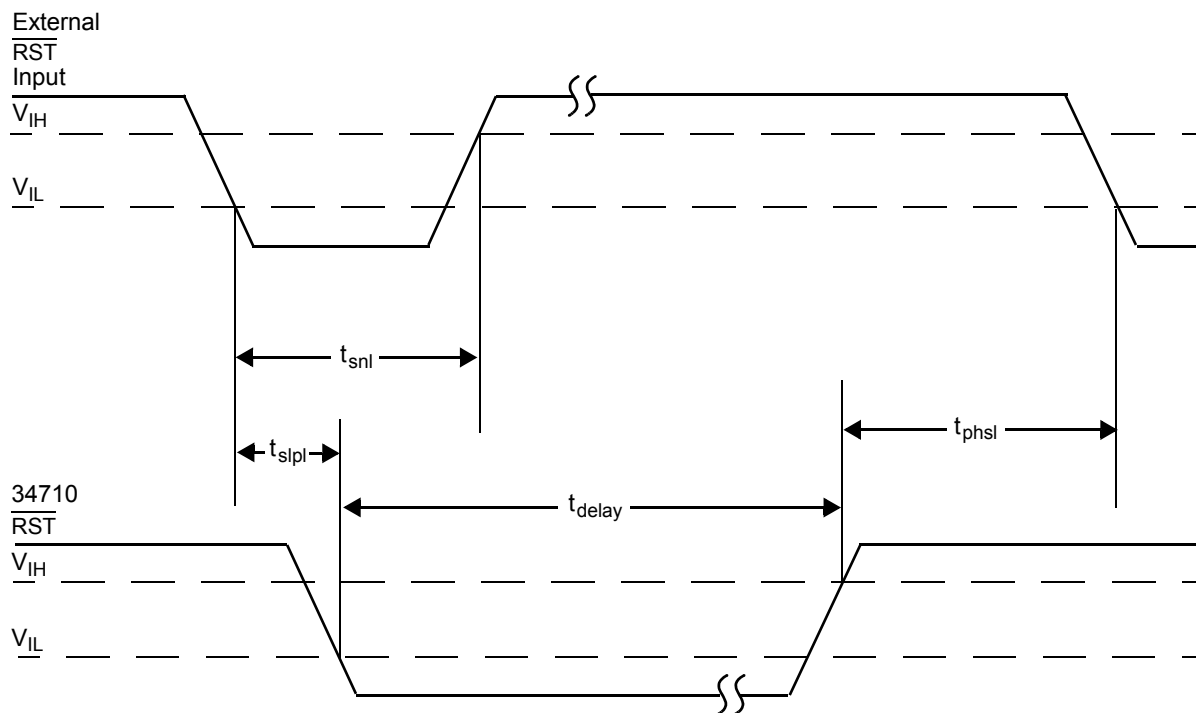
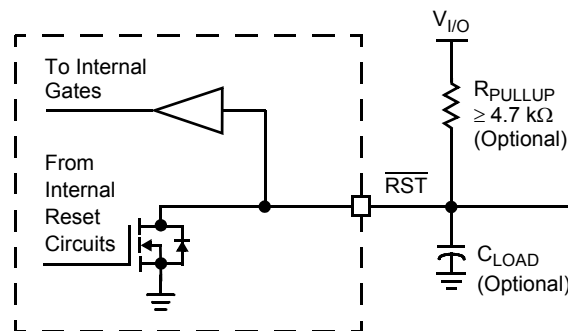

Figure 2. $\overline{\text{RST}}$ Timing
Figure 3. \overline{RST} Terminal Interface
12. See Figure 2. RST Timing, page 9.
The \overline{RST} output is an I/O device with an open drain output driver with a pullup and a CMOS digital input gate (Figure 3). This I/O structure allows wired OR connection to the MCU's \overline{RST} I/O terminal, as well as allowing the MCU to initiate a reset cycle by driving its \overline{RST} terminal low. When responding to a MCU request for a reset cycle, the 34710 must respond rapidly enough to prevent a glitch. Figure 2, page 9, shows the timing